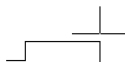

Figure 4-13: Drawing with direct distance entry enables you to specify coordinates by typing in a length after you move the pointer in the desired direction.
6. Move the mouse horizontally to the right and then type **2** ↵. Your drawing should look like Figure 4-13.